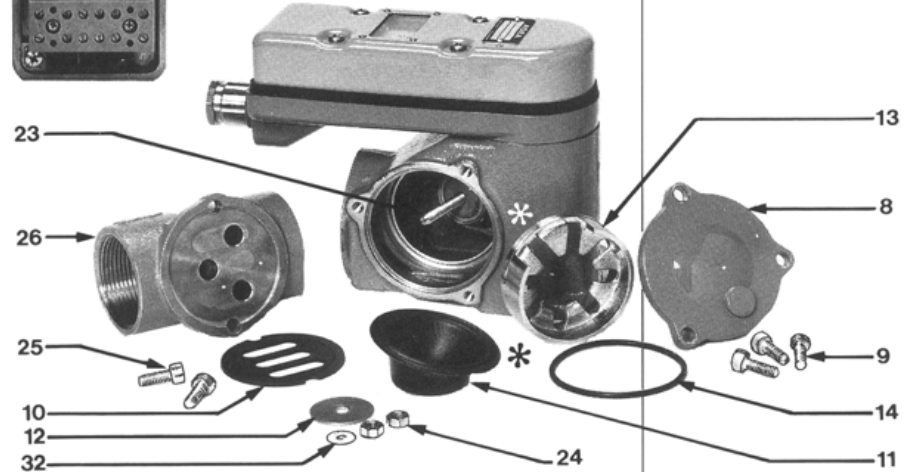

Fig. 6
2. **Turning the orifice plate housing** Refer to Fig. 6
- that the stop screw (23), *Fig. 6*, limits the deflection to the upper edge of scale value 6. The stop is inserted to prevent the overloading of the spring. Adjust the stop by moving the nuts (24).